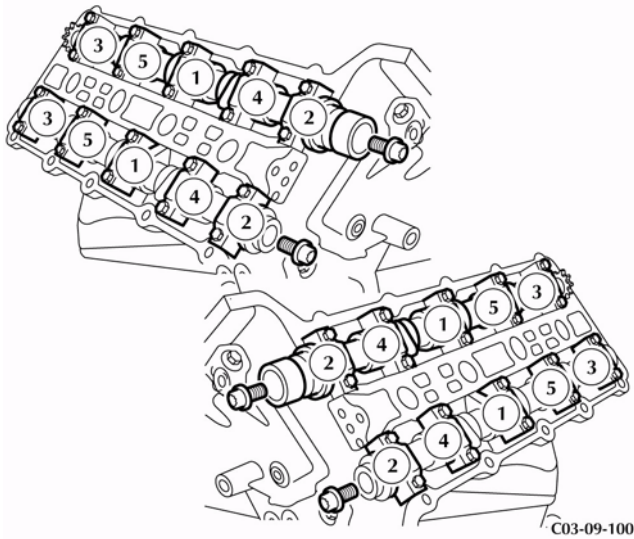

Figure 4
4. Install and torque the ten bolts in the sequence specified as shown in Figure 4.